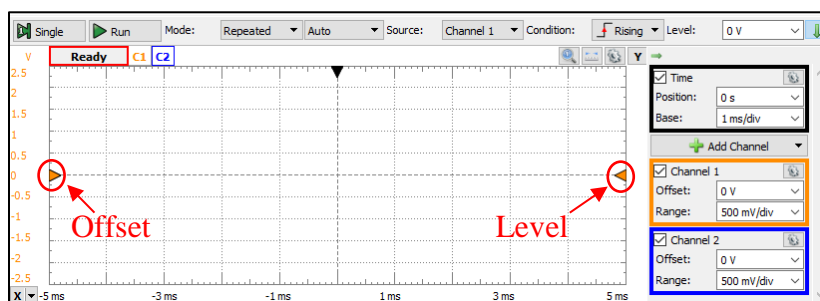

Figure 30: Default Oscilloscope
**Setting up a Channel:** To use only channel 1, click the check box next to channel 2 as seen in Figure 30 to turn channel 2 off. By default, the waveform graph displays +/- 2.5V. Each line on the output plot is a "div". To see 3.3V set the range to 1V/div. The offset will add or subtract a constant value to the displayed results. This can be helpful for analyzing two waveforms at the same time. The base time will modify the sampling rate, allowing you to easily view waveforms of different frequencies.